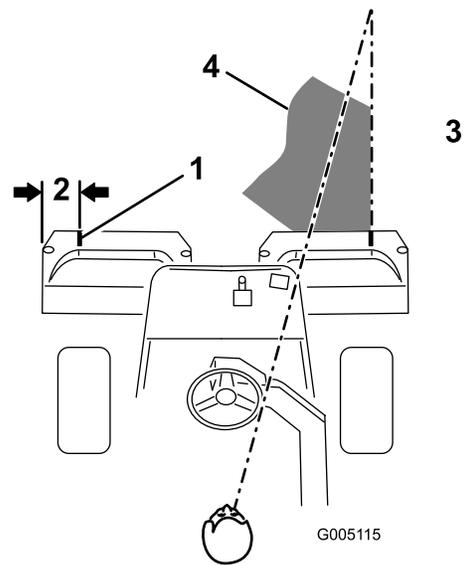
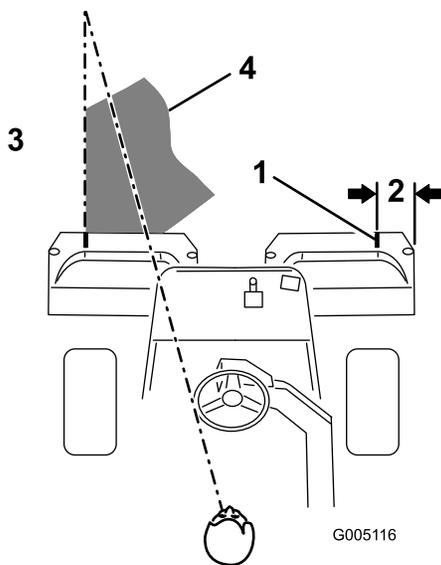

Figure 42
Figure 43
2. Either place a strip of white tape or paint a line onto each basket paralleling the outer edge of each basket (Figure 42).
- Overlap a minimal amount with the previous cut on return passes. To assist in maintaining a straight line across the green and keep the machine an equal distance from the edge of the previous cut, establish an imaginary sight line approximately 6 to 10 ft (1.8 to 3 m) ahead of the machine to the edge of the uncut portion of the green (Figure 42 and Figure 43). Some find it useful to include the outer edge of the steering wheel as part of the sight line; i.e. keep the steering wheel edge aligned with a point that is always kept the same distance away from the front of the machine (Figure 42 and Figure 43).